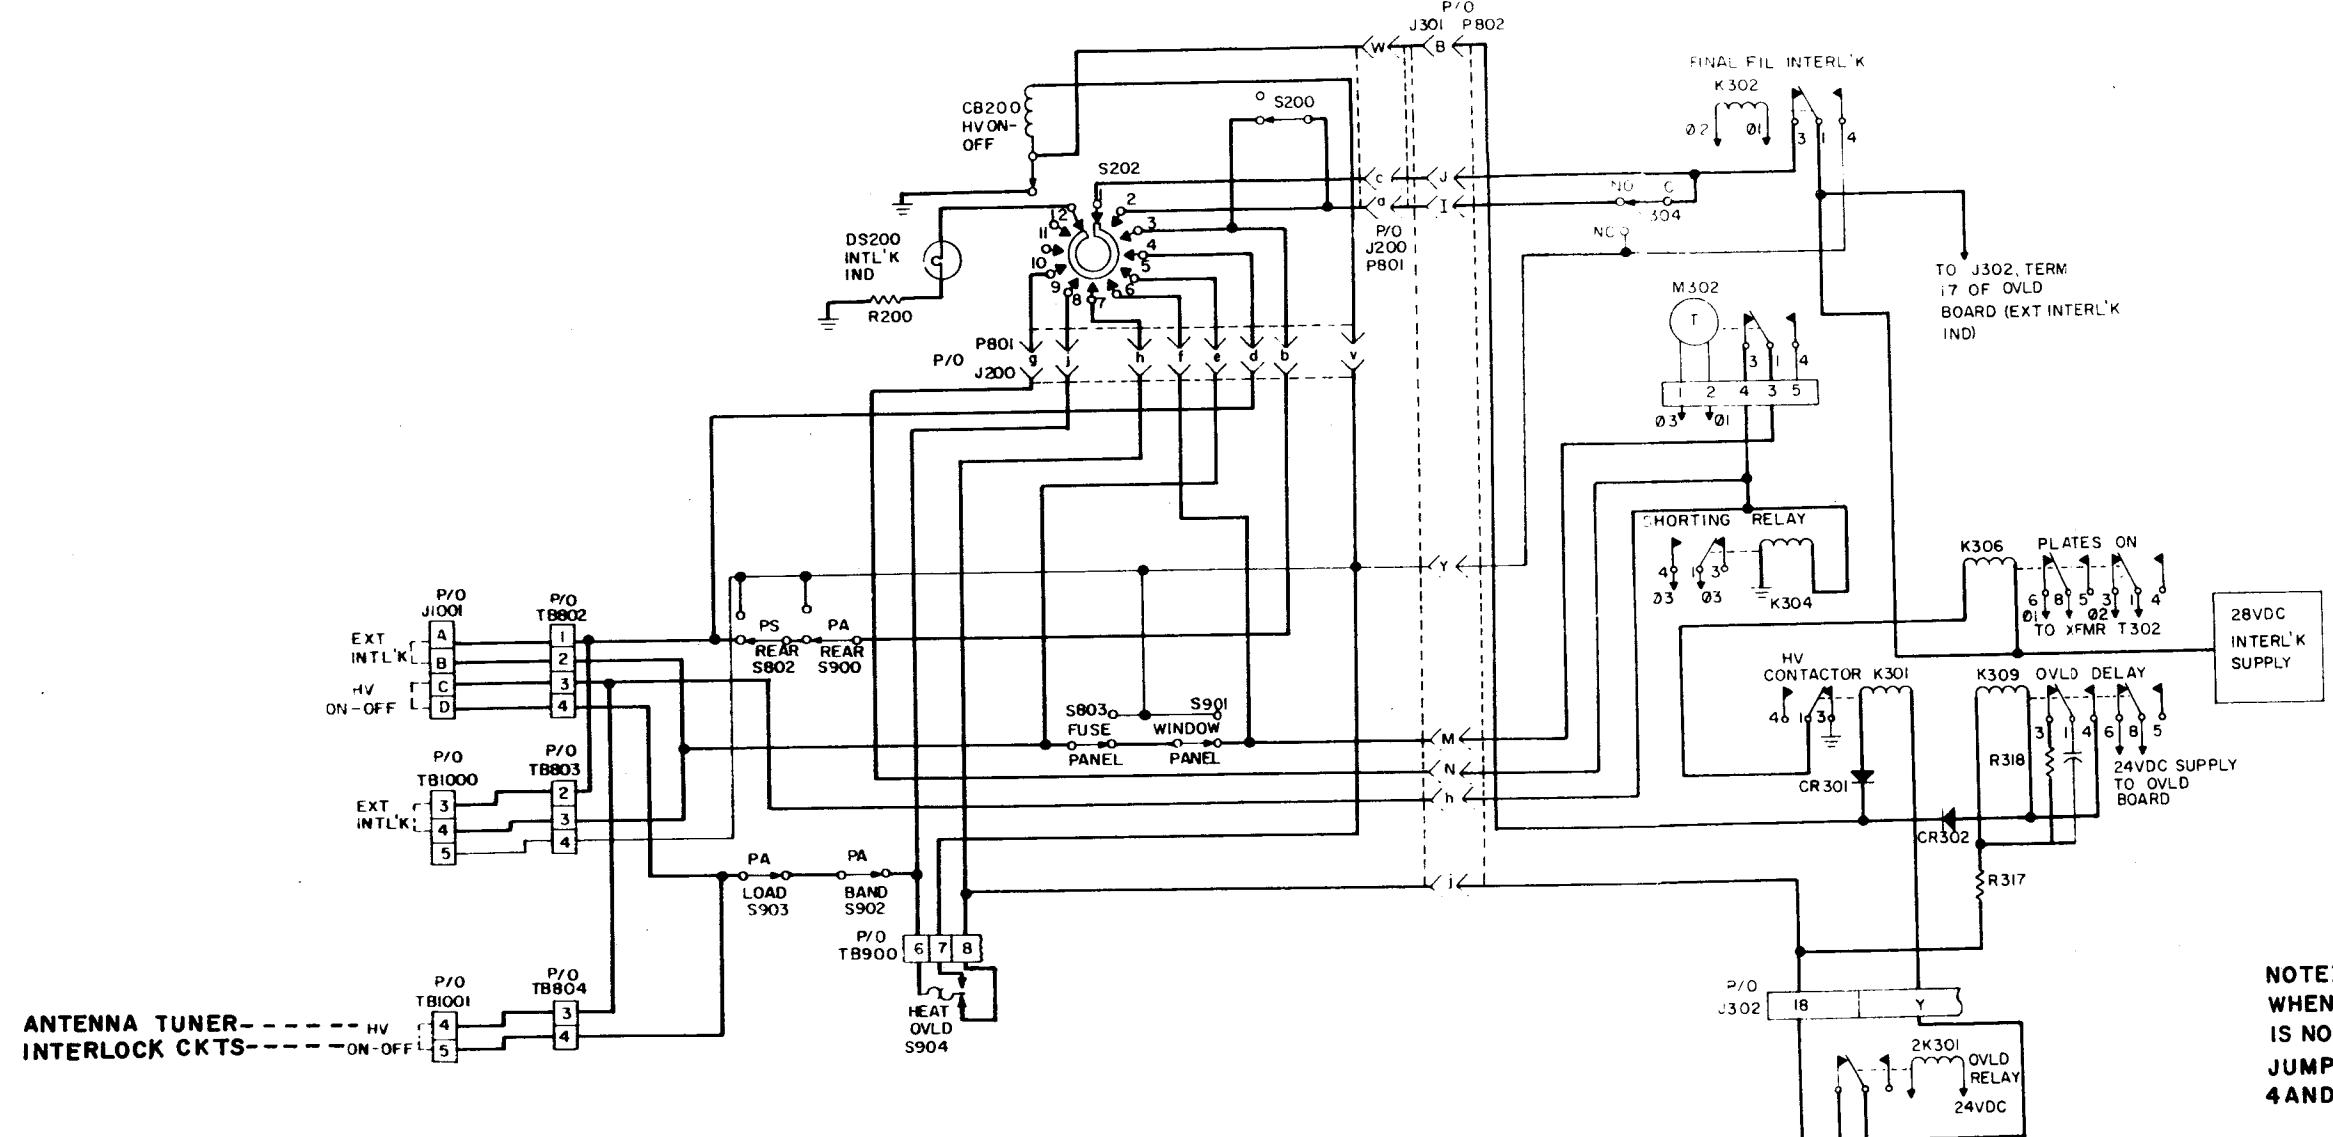

Figure 4-3. Simplified Schematic of Interlock Circuits
a. SERIES INTERLOCK CIRCUIT (Refer to figure 4-3).